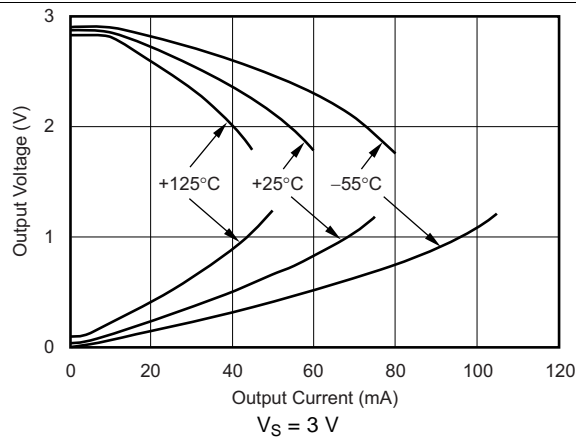
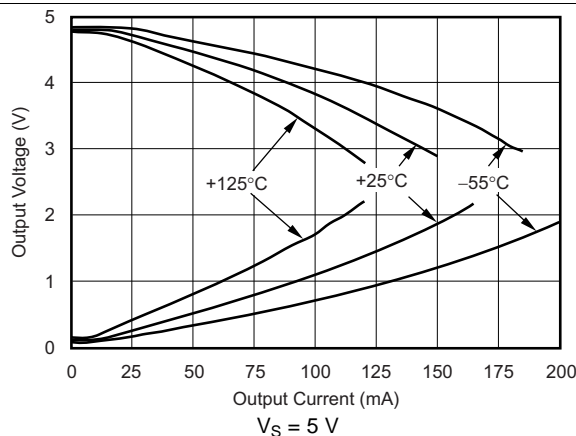

Figure 21. Output Voltage Swing vs Output Current
Figure 23. Output Voltage Swing vs Output Current
(1) See Figure 21 and Figure 23.
(2) Specified by design.
A class AB output stage with common-source transistors is used to achieve rail-to-rail output. For high-impedance loads ( $> 200 \Omega$ ), the output voltage swing is typically 100 mV from the supply rails. With 10- $\Omega$  loads, a useful output swing can be achieved while maintaining high open-loop gain; see Figure 21 and Figure 23.
The OPA357 output stage can supply a continuous output current of  $\pm 100$  mA and still provide approximately 2.7 V of output swing on a 5-V supply, as shown in Figure 33. For maximum reliability, TI recommends running a continuous DC current in excess of  $\pm 100$  mA; see Figure 21 and Figure 23. For supplying continuous output currents greater than  $\pm 100$  mA, the OPA357 can be operated in parallel as shown in Figure 34.